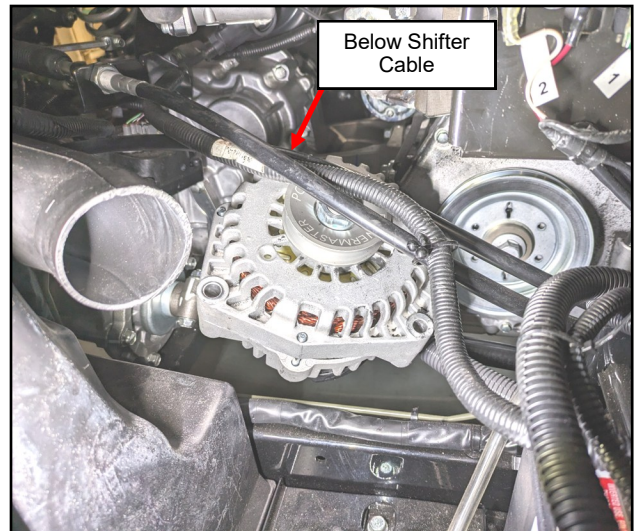

Fig. 3.6 (Insert Alternator into Engine Component)
- 3.6 Insert alternator with signal wire harness into the engine compartment from the side below the shifter cable as shown in figure 3.6.